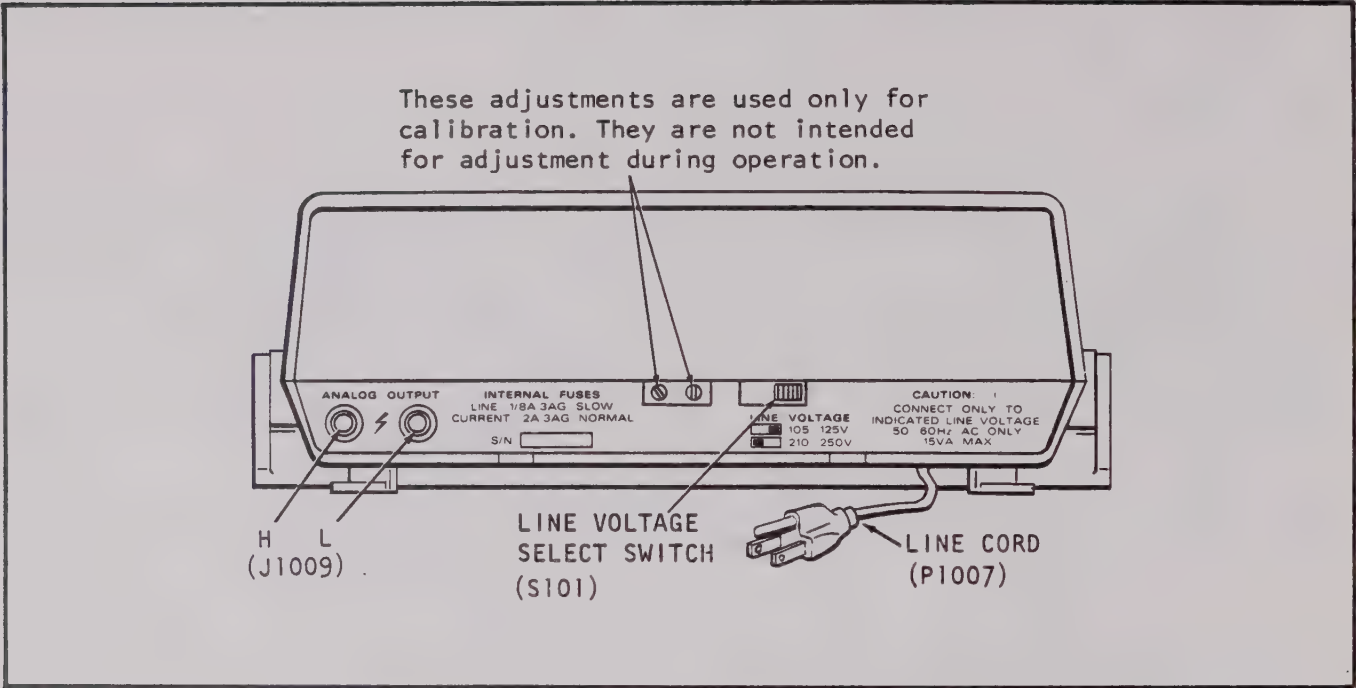
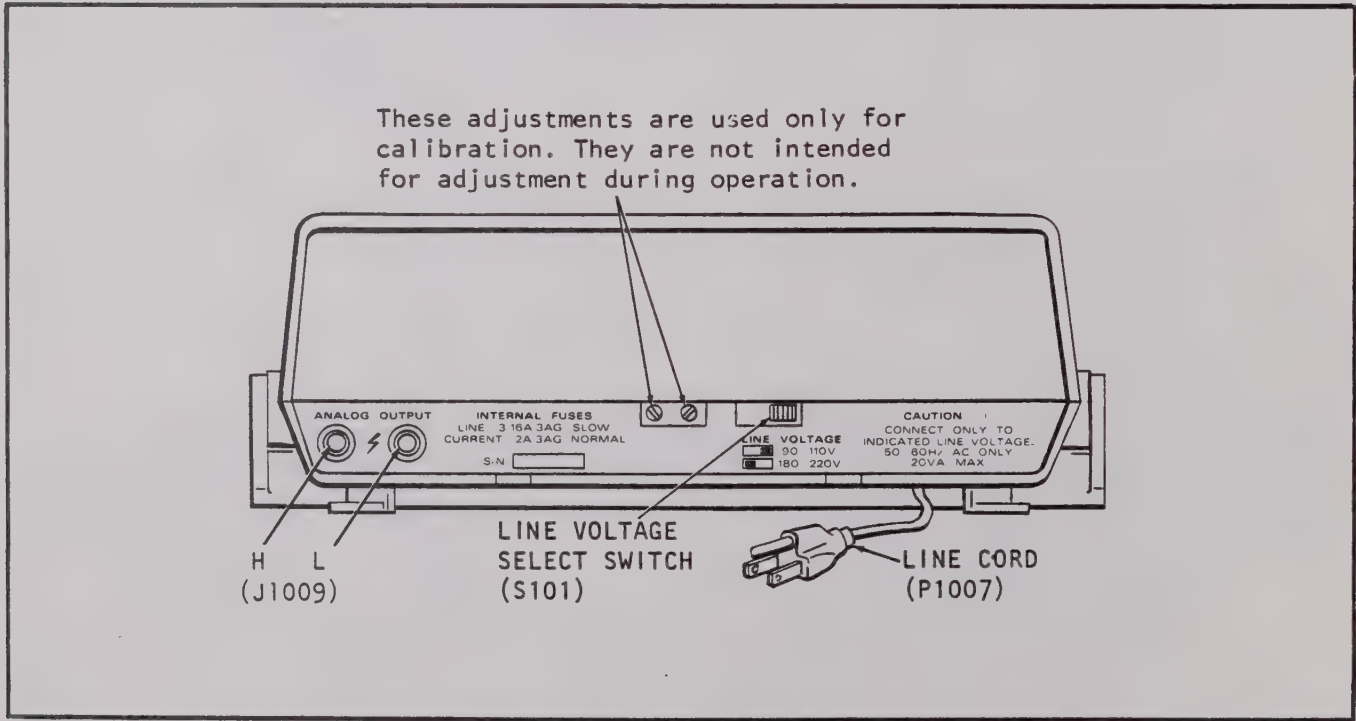
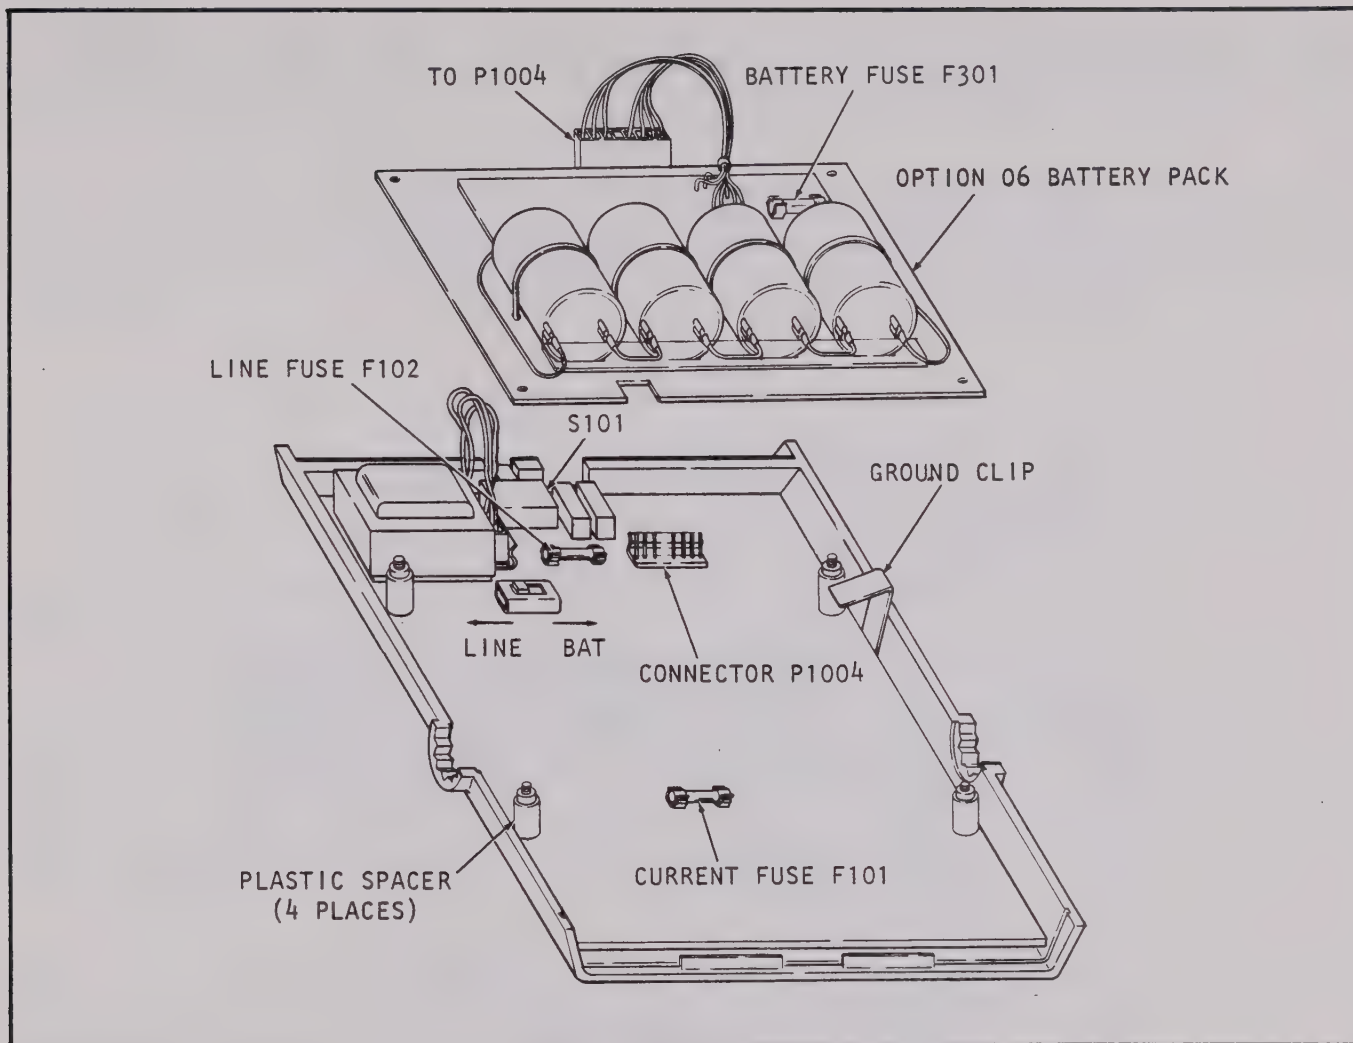

FIGURE 2-1. Rear View of Standard Line Voltage Instruments.
FIGURE 2-2. Rear View of Optional Line Voltage Instruments.
FIGURE 2-3. Battery Pack Installation.
a. Set the LINE VOLTAGE switch on the back of the instrument to correspond to the line voltage available. Standard ranges are 105 to 125 volts and 210 to 250 volts ac as shown in Figure 2-1. Optional ranges of 90 to 110 volts and 180 to 220 volts ac are also available as shown in Figure 2-2. As indicated on their respective rear panels, the standard line voltage range instruments use an internal line fuse (F102) of 1/8A rating and the optional line voltage range instruments use a 3/16A fuse. The location of F102 is shown in Figure 2-3.
2-5. OPERATION ON BATTERY PACK POWER. The Model 4003 DMM may also be operated from rechargeable sealed lead-acid batteries contained in the Option 06 Battery Pack. The battery pack will operate the 4003 DMM for up to 6 hours. Circuits within the battery pack will automatically shut down the instrument when the battery charge is insufficient to maintain accurate readings. To install Option 06, refer to Figure 2-3 and perform the following procedure:
e. Set the BAT/LINE switch to the BAT position shown in Figure 2-3. Note that the battery pack will not operate properly if this switch is not in the BAT position.